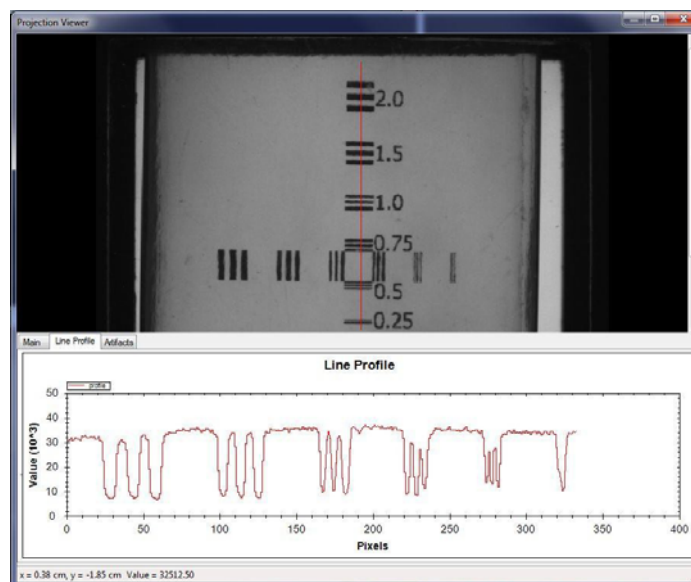

Figure 5: Line Profile, Projection Viewer
14. Select the **Line Profile** tool (from the bottom tab) and draw a line profile (click and drag mouse) that intersects the lines pairs perpedicularly, as shown by the red line in Figure 5. Note that you can right click on the line profile and save it to various graphic formats. To extract values from the plot, you can do one of two things: (i) right click on the line profile plot and enable **Show Point Values**. Dragging the cursor along the line profile curve gives point values. Doing this carefully enough allows you to read off the min. and max. points, or (ii) right click on the plot and **Export Data as CSV...** You can subsequently open this file in Microsoft Excel, select the two columns and plot as a 2D line chart. In Excel, you can again use the cursor to read out values at any point, or look at the data itself. This tends to be more flexible and allows you to do data analysis away from the DeskCAT application and device.